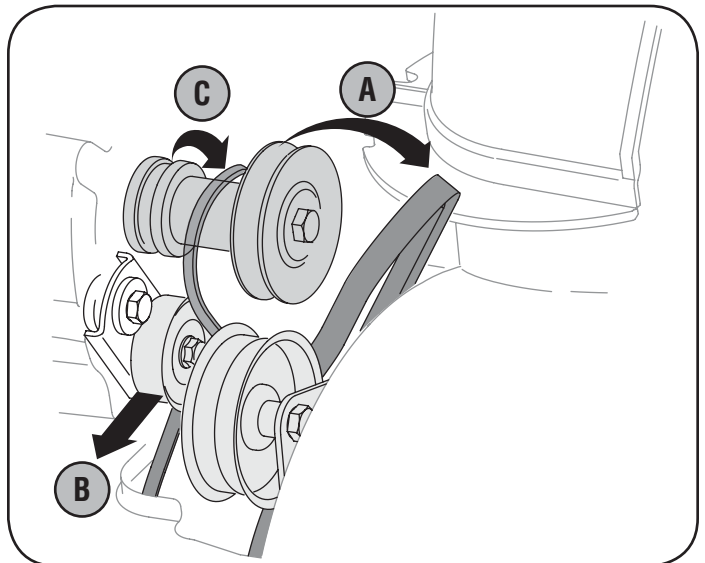

Figure 36
3. Remove the belt from engine pulley as follows. Refer to Figure 36.